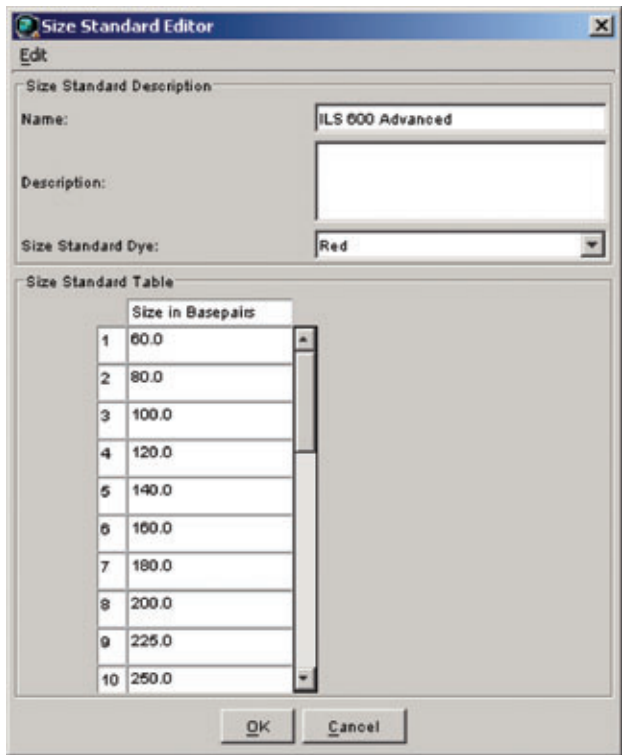

Figure 6. The Size Standard Editor.
5. Enter a detailed name such as "ILS 600 advanced" in the Size Standard Editor (Figure 6).
5. Enter a detailed name such as “ILS 600 advanced” in the Size Standard Editor (Figure 6).